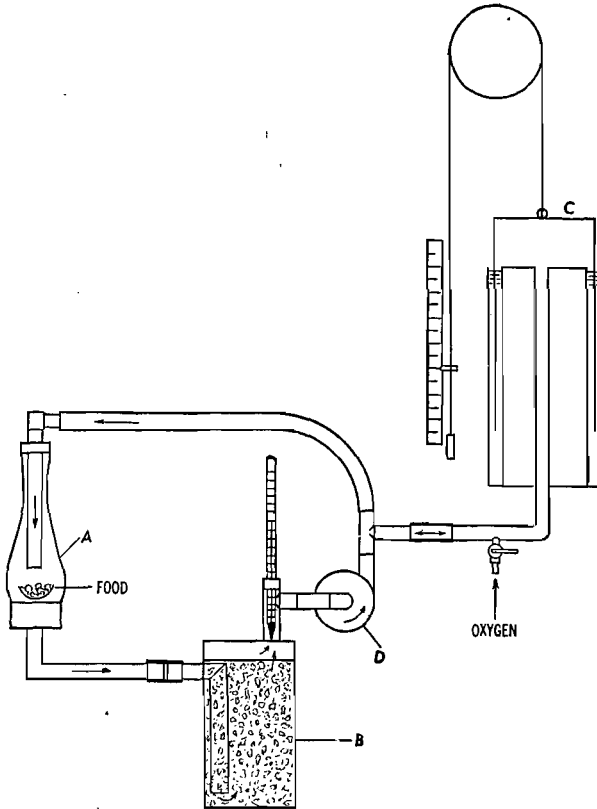

Fig. 14.7. An oxycalorimeter.
*or furnishes energy.* The fuel value of a food may be measured in a bomb calorimeter but an oxycalorimeter is more frequently used. The apparatus shown in Figure 14.7 consists of a combustion chamber *A* in which a weighed sample of the food is burned, a soda-lime absorber for carbon dioxide *B*, a device for measuring the oxygen used *C*, and a blower unit for circulating the gas mixture *D*. Tables are used for converting liters of oxygen consumed in the burning process to calories of heat furnished by the food.